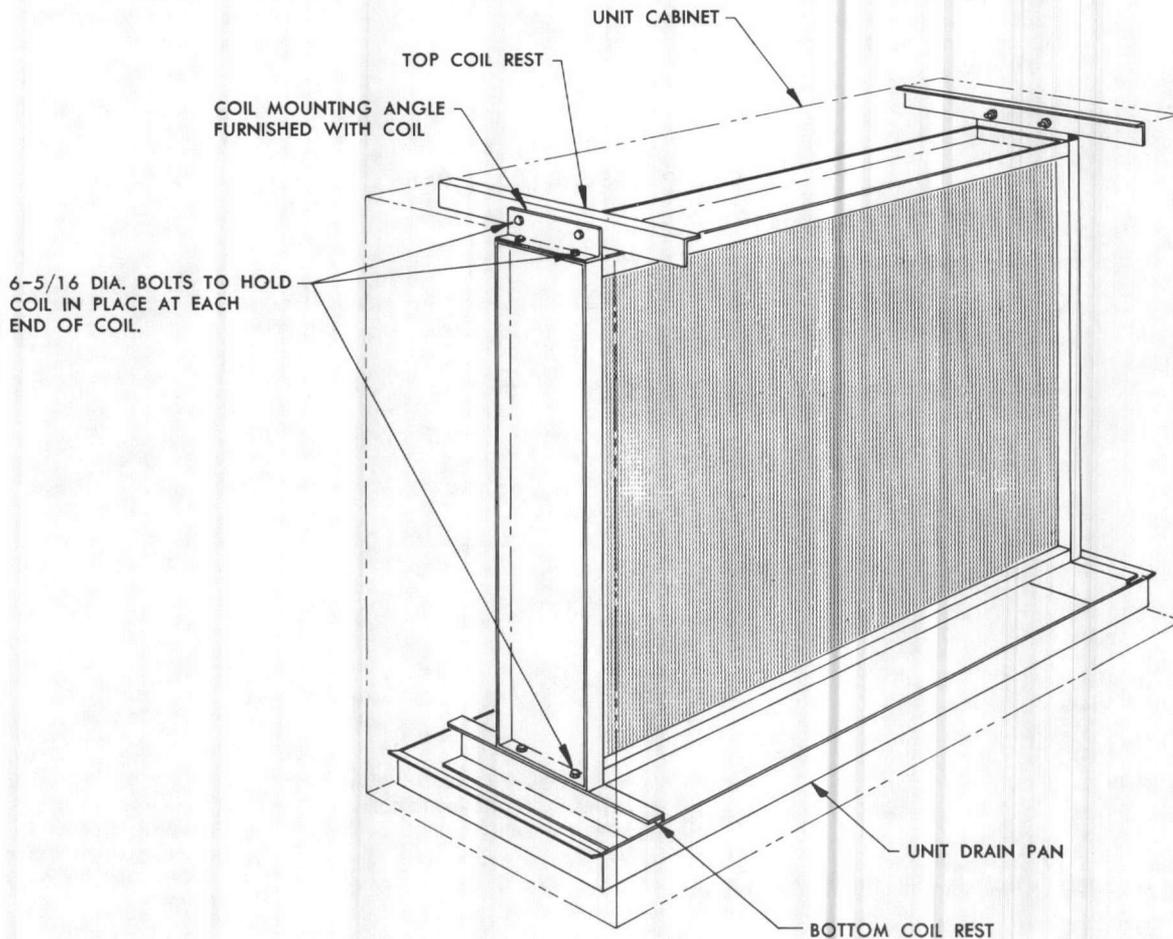

FIGURE 26
2. Models LML/MMM-106 thru 111 (Figure 26).